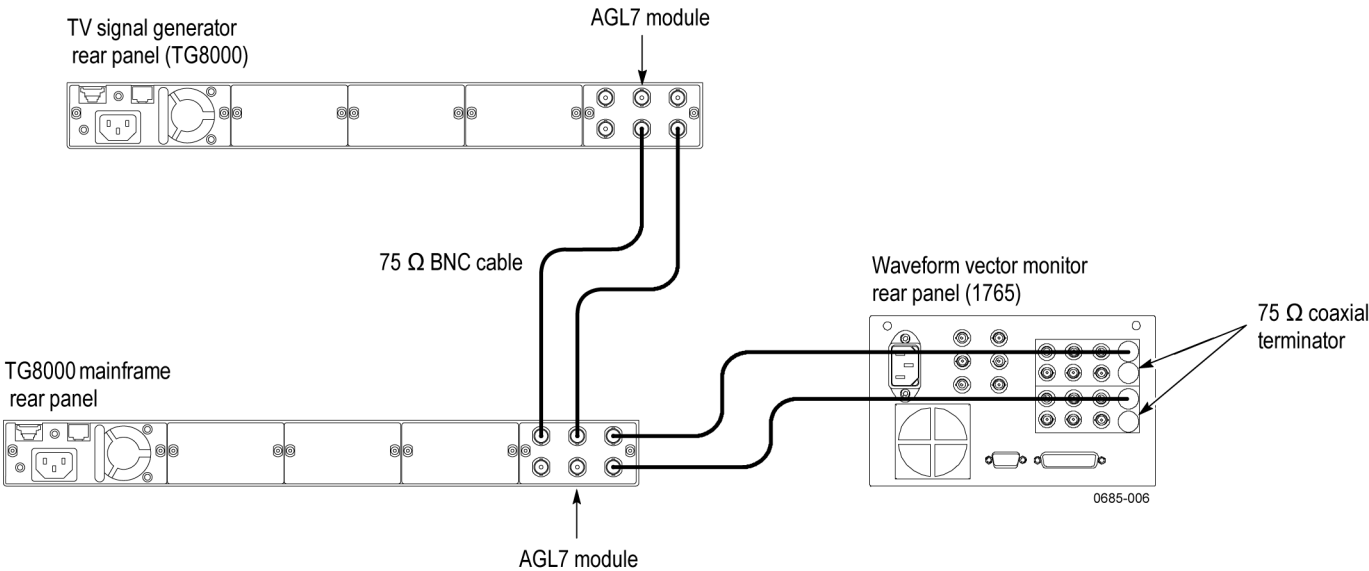

Figure 6: Setup for genlock test
2. Use a 75 Ω BNC cable to connect the REF connector on the AGL7 Genlock module to the BLACK 1 connector on the TV signal generator (AGL7 module) as shown in the following figure. (See Figure 6.)
3. Use a 75 Ω BNC cable to connect the other REF connector on the AGL7 Genlock module to the A connector on the waveform vector monitor as shown in the following figure. (See Figure 6.)
4. Use a 75 Ω BNC cable to connect the BLACK 1 connector on the AGL7 Genlock module to the B connector on the waveform vector monitor rear panel as shown in the following figure. (See Figure 6.)